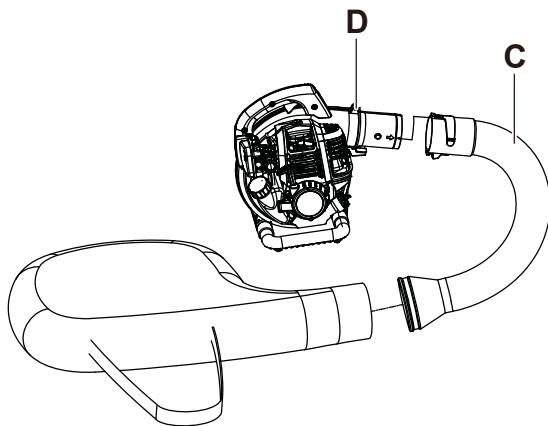

Fig. 5
2. Align the slots in the curved tube (C) with the with the bumps on the blower outlet (D) Slide the tube on and rotate downward till it locks in place. When properly assembled the tube will curve downward (Fig.5).
2. While holding the machine, twist the the curved tube counterclockwise until it unlocks from the machine. (Fig.5)